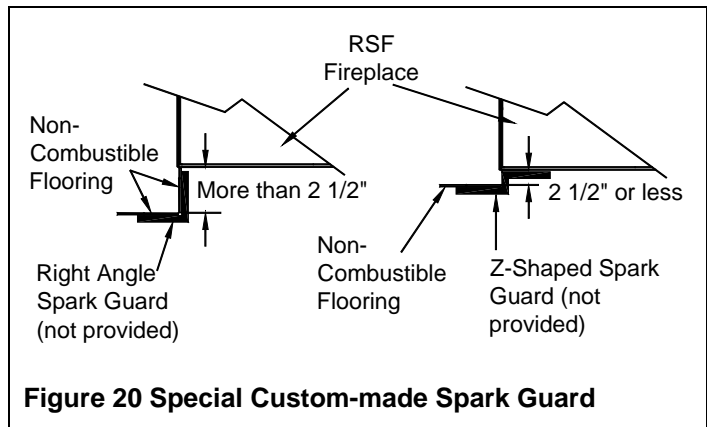

Figure 20 Special Custom-made Spark Guard
If you are preparing a raised installation, you will need a custom made spark guard, either a "Z" shaped spark guard or a right angle spark guard (see Figure 20). The Z-shaped spark guard must be used if the height between the bottom of the fireplace and the top of the non-combustible flooring of the hearth extension is less than or equal to 2 ½". The height of the Z-shaped spark guard must equal the distance between the floor and the base of the unit and go under the hearth extension and the fireplace by at least 2 ½". If the unit is installed higher than 2 ½" from the top of the flooring, a right angle spark guard is necessary. The sides of the right angle spark guard should be at least 2 ½" x 2 ½" and must be covered with non-combustible material. Any custom made spark guard must have the minimum width specified in Table 1 (I), and be installed centered on the door opening.